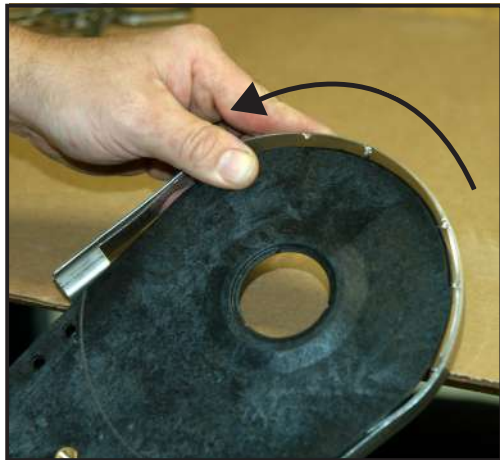

Figure 19
5. Manually fit the horseshoe around the curve of the Drive Side Plate (*Figure 19*).